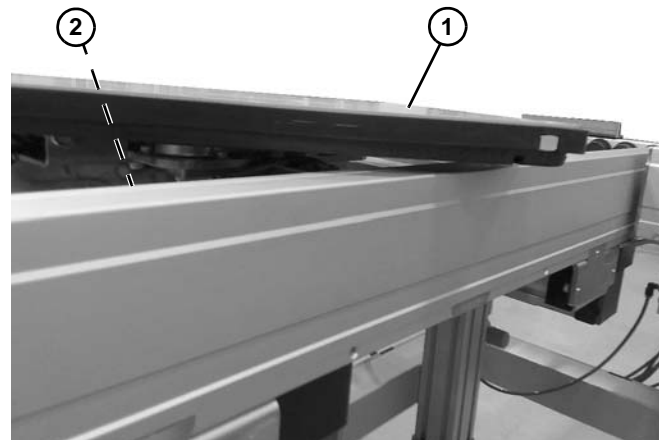

Figure 60
1. Adjust stroke so that pallet (**Figure 60, item 1**) clears rollers (**Figure 60, item 2**) and remaining conveyor components.